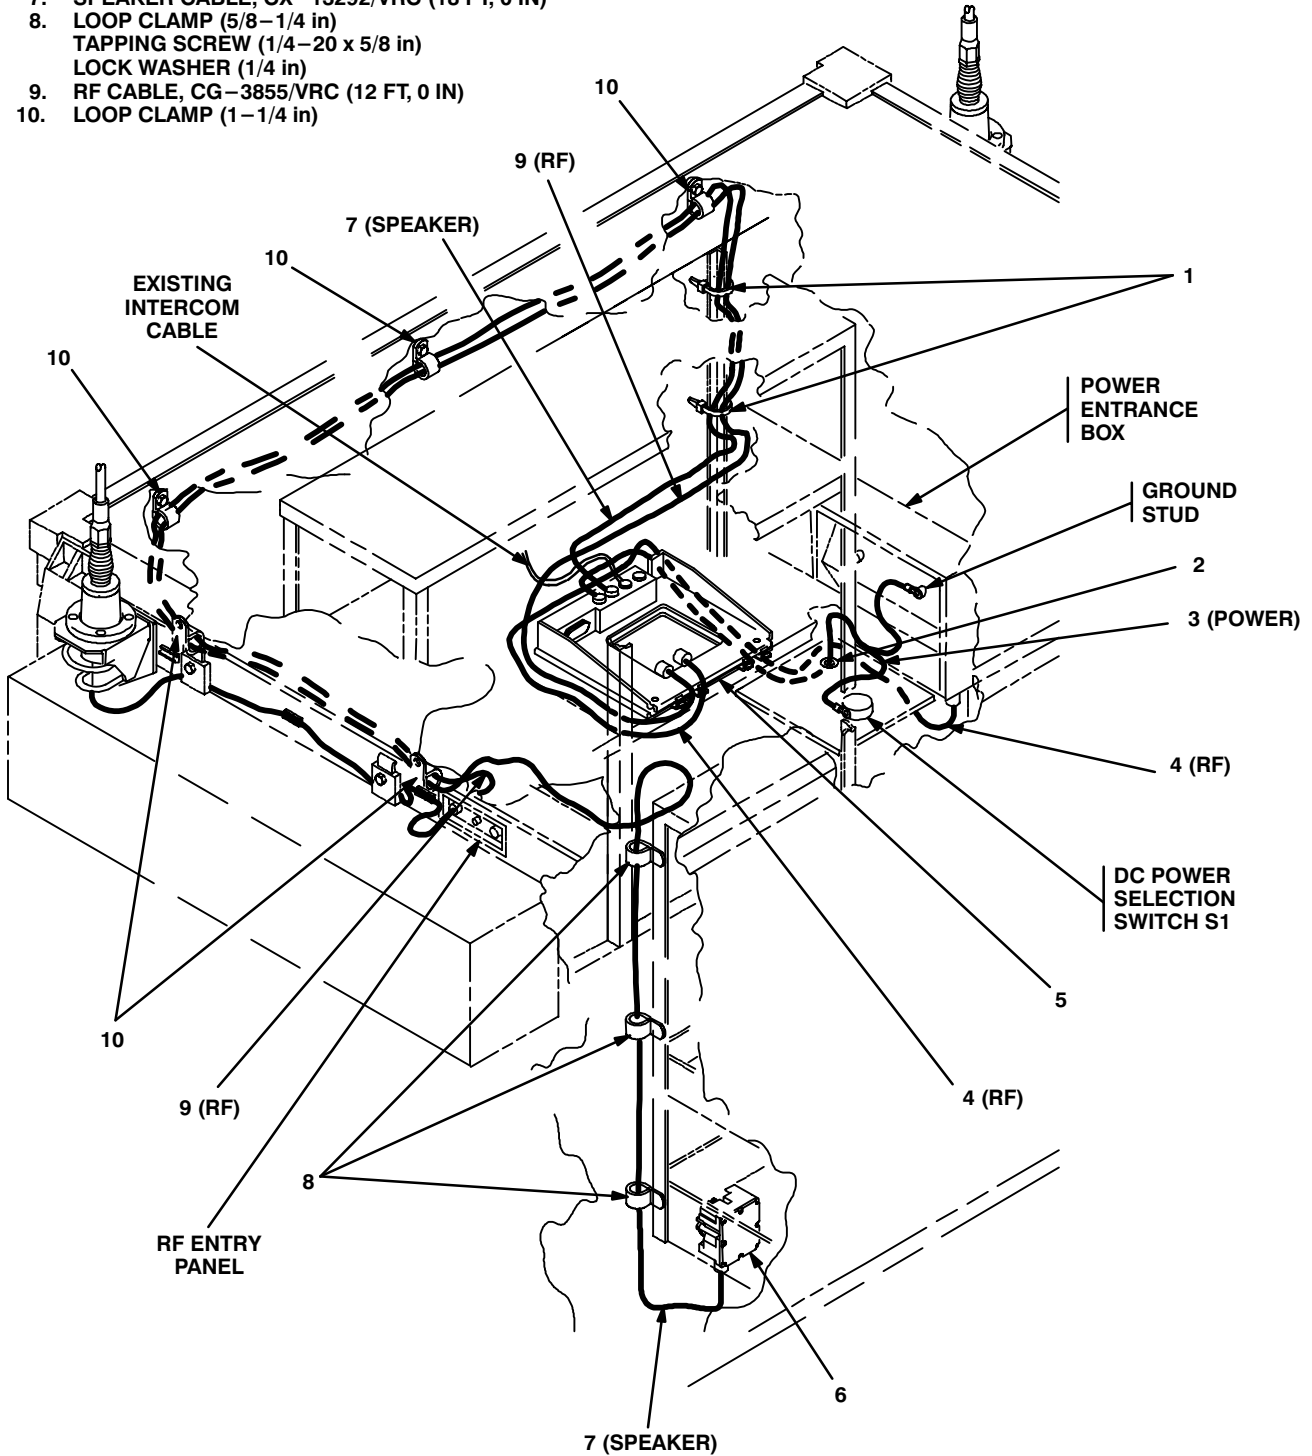

Figure 5-6 (3). Cable Installation: Interior Cabling
w. Speaker cable (7).	Route down front support of roadside equipment rack to speaker (6). See figure 5-6 (3).
x. Speaker cable (7) connector P1.	Connect and secure to speaker (6) connector J1.
y. Mounting holes for three loop clamps (8).	Drill three size 2 (0.221 in) diameter holes through front support of roadside equipment rack.	Tools: Electric drill and size 2 drill bit.
z. Three loop clamps (8), three tapping screws (1/4 -20 x 5/8 in), and three lock washers (1/4 in).	Wrap clamps around speaker cable (7); then install to holes drilled in step y.	Tools: 7/16 in open/box wrench.